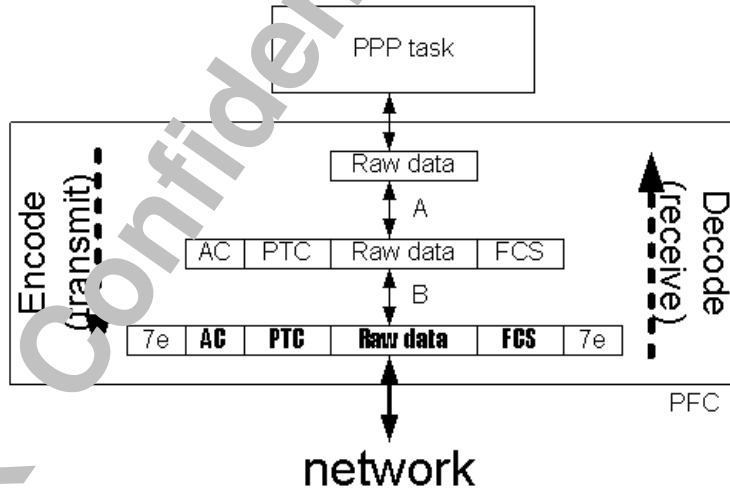

Figure 63 Basic PFC Flow
When a PPP task wants to transmit a set of raw data through the network, the data must be encoded first (**Figure 63**). In process A, the raw data is prefixed with an Address (0xff) and Control (0x03) field* (AC), followed by Protocol field** (PTC). An FCS is appended***.